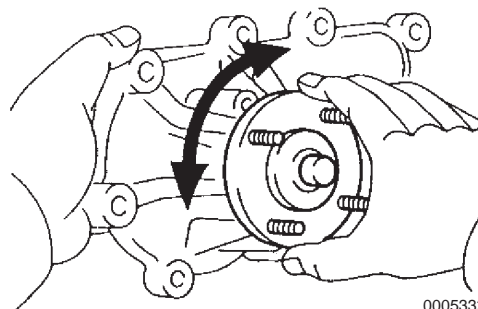

Figure 7-4
8. Inspect the freshwater pump by turning the pulley and checking that the freshwater pump rotates smoothly and the bearing has no play (**Figure 7-4**). Replace the freshwater pump as needed.